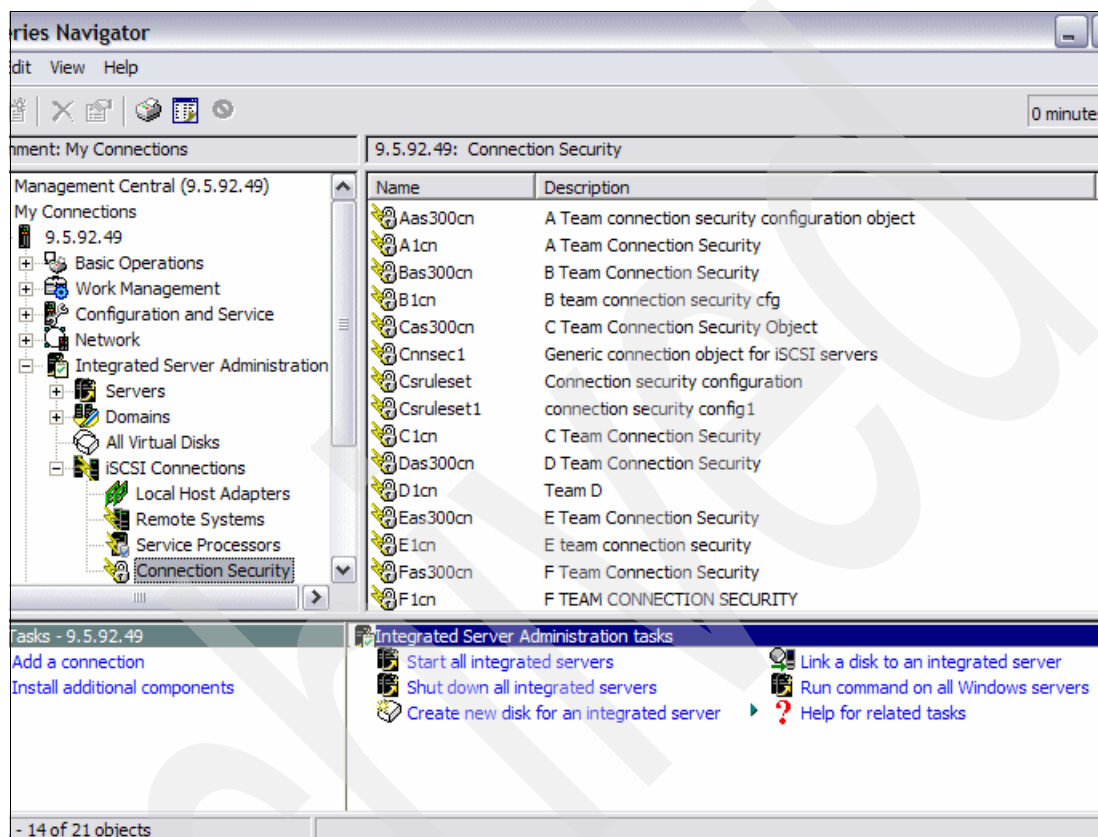

Figure 4-30 Select Connection Security object
1. Expand **Integrated Server Support** → **iSCSI Connections** → right-click **Connection Security**. See Figure 4-30.